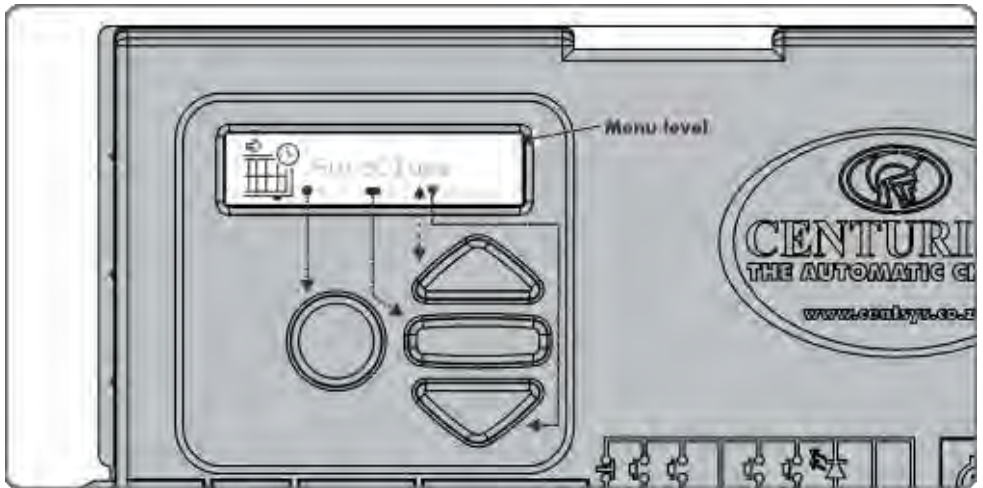

FIGURE 44
- To completely disengage the gearbox, simply pull the manual override pin towards you, as indicated in Figures 44, 45 and 46. This will cause the operator's gearbox to be overridden and the door can then be operated by hand